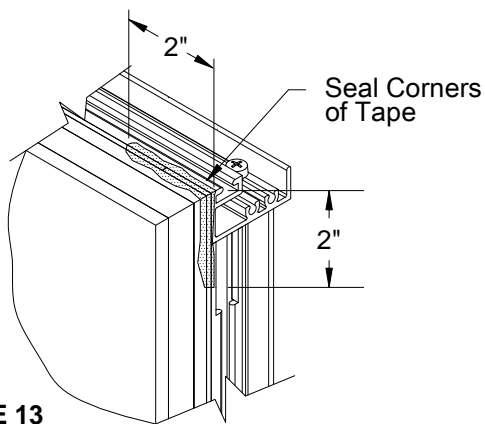

FIGURE 13
- 2.16 Apply cap bead of a 1-part neutral cure silicone sealant to the edge of the VHB SGT, between the glass and metal, in each corner. Sealant should be applied 2" in both directions around each corners. SEE FIGURE 13, PAGE 18.